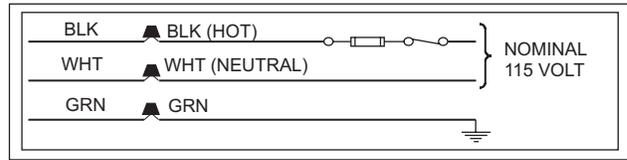

**FIGURE 8:** Electrical Wiring
Some utility companies or local codes require pipe sizes larger than the minimum sizes listed in these instructions and in the codes. The furnace rating plate and the instructions in this section specify the type of gas approved for this furnace - only use those approved gases. The installation of a drip leg and ground union is required. Refer to Figure 8.
1. Shut off gas supply at valve upstream from furnace or at meter as required. Refer to Figure 8.